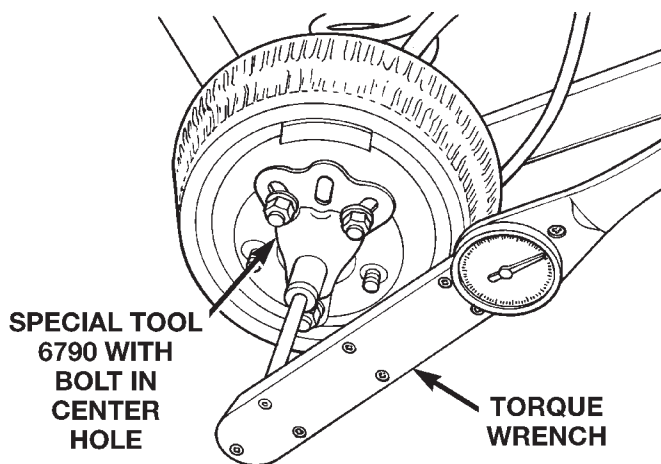

Fig. 5 Trac-lok Test —Typical
(1) Place blocks in front and rear of both front wheels.
(2) Raise one rear wheel until it is completely off the ground.
(3) Engine off, transmission in neutral, and parking brake off.
(4) Remove wheel and bolt Special Tool 6790 to studs.
(5) Use torque wrench on special tool to rotate wheel and read rotating torque (Fig. 5).